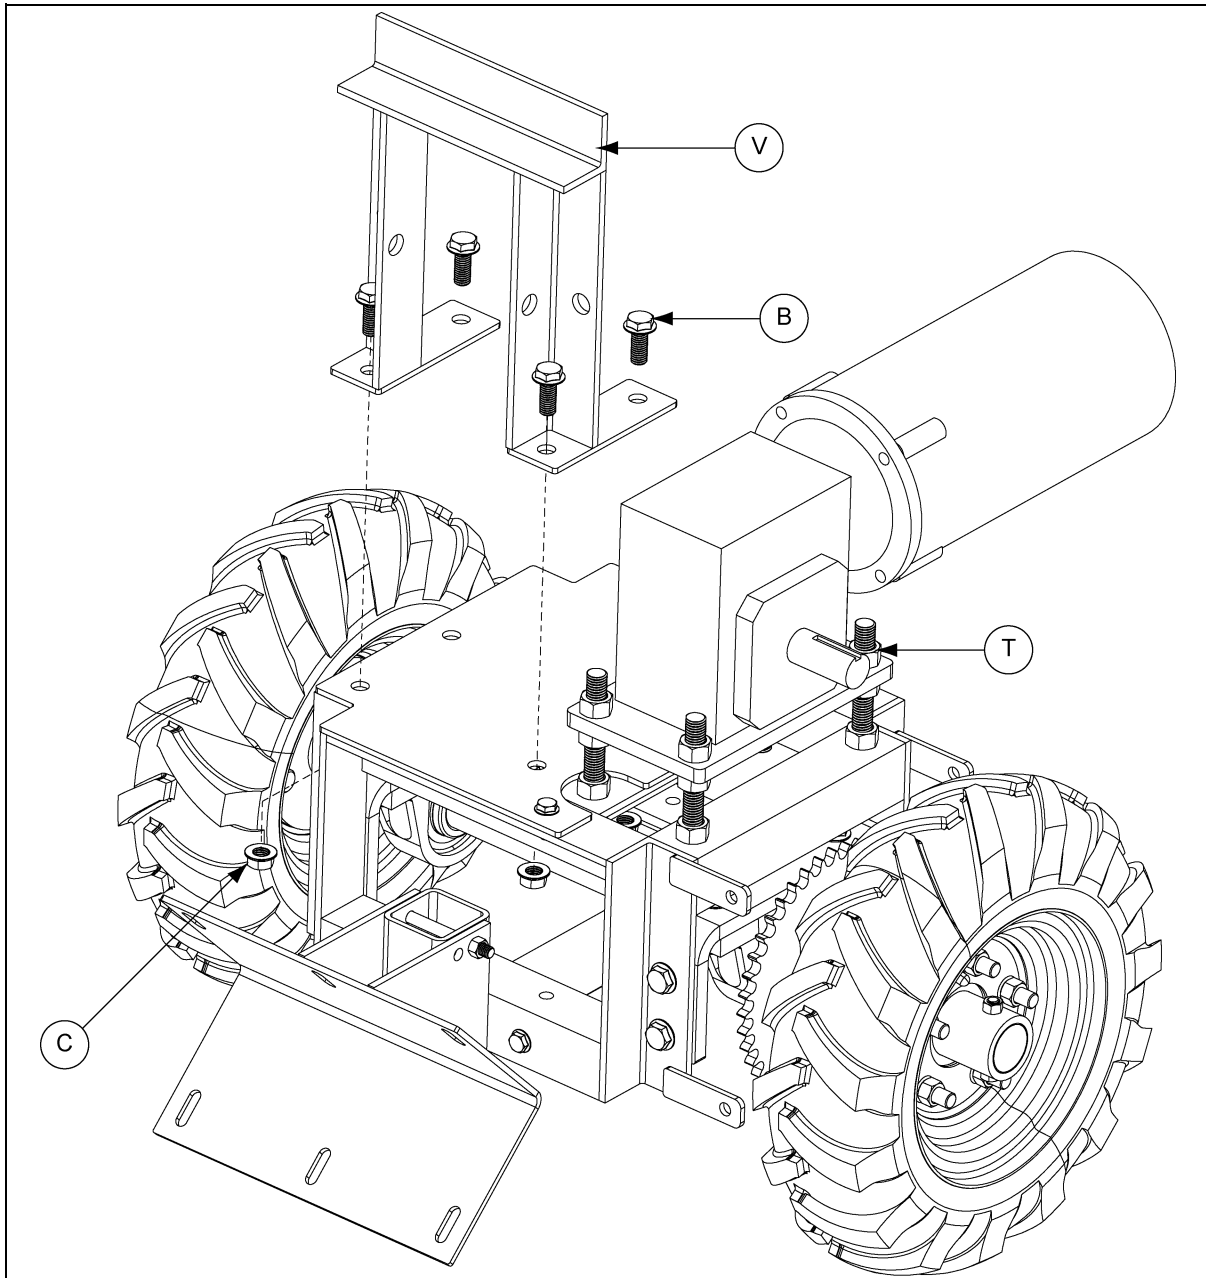

Figure 4W
14. Mount the gearbox plate and motor assembly to the 5/8"-11 x 6" threaded rod installed to the tractor frame using four (4) 5/8"-11 hex nuts (T).
15. Attach the weight stand (V) to the weight plate and tractor frame with four (4) 1/2"-13 x 1-1/4" flange bolts (B) and serrated flange nuts (C). *(See Figure 4W.)*